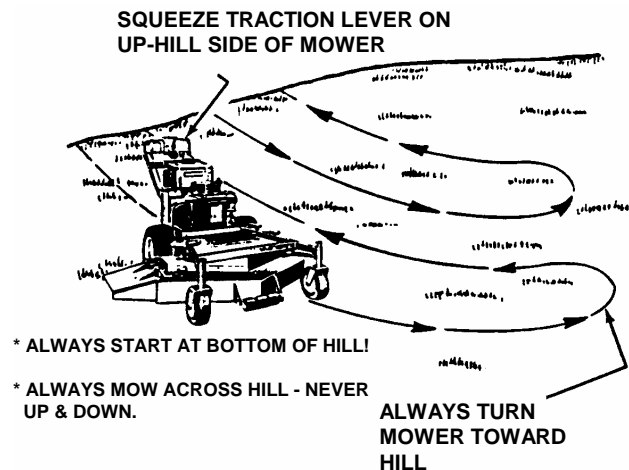

FIGURE 3.7
1. Always mow hillsides starting at bottom of hill. Mow across slopes, never up and down. Exercise CAUTION when changing directions on slopes. **DO NOT MOW STEEP SLOPES.** See Figure 3.7.